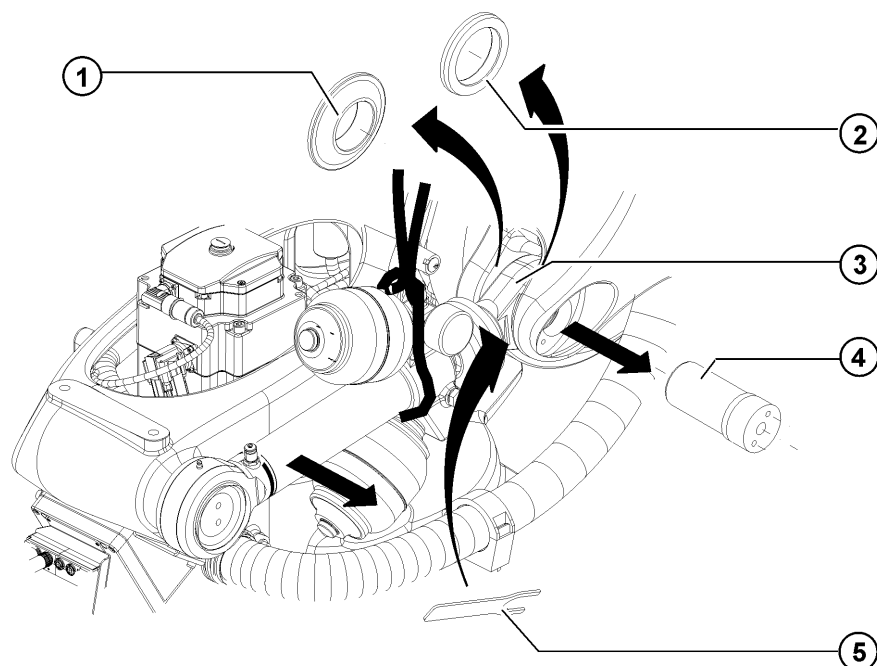

Fig. 11-30: Removing the counterbalancing system on a ceiling-mounted robot: pin
8. Insert the pin locator on the right-hand side between the articulated head and the link arm (>>> Fig. 11-30).